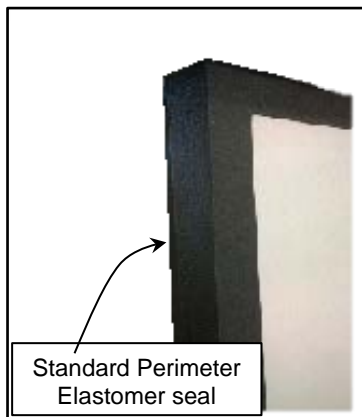

Figure 28
5. Inspect the end seal around the perimeter of each panel. The end seals must be securely adhered to the panels, not cracked or damaged. Repair as necessary. (See Figure 28)